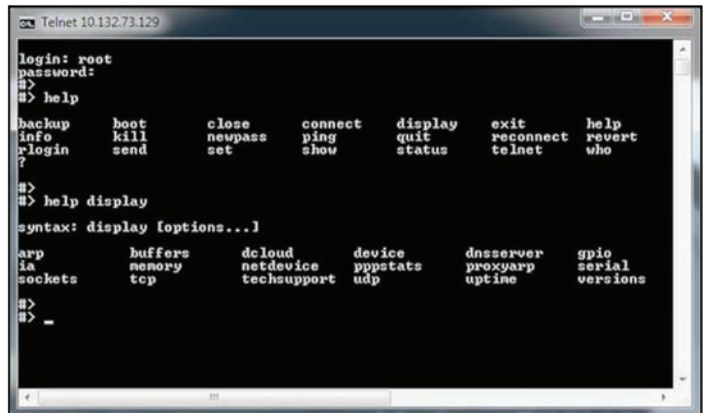

Figure 78: Telnet help command
- A list of other available commands and their usage can be displayed by entering help or ? at the #> prompt (see *Figure 78* below).